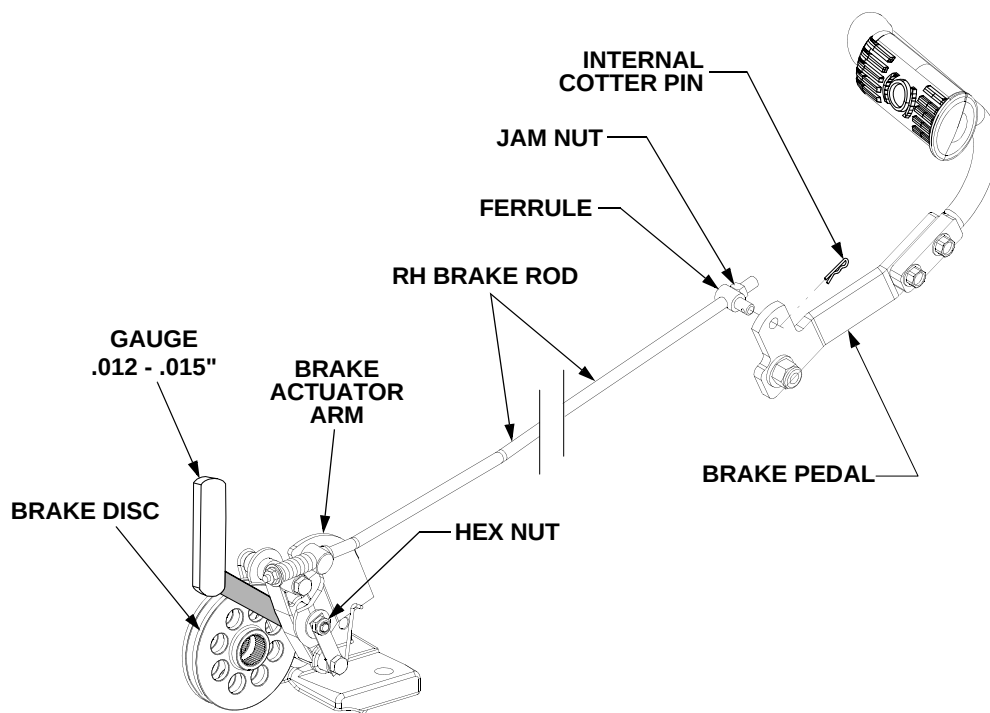

Figure 28
- From beneath the RH running board, remove the internal cotter pin to disengage the brake rod ferrule from the brake pedal. Position the brake rod to make certain there is no pull on the brake actuator arm. See Figure 28.
puck and the brake disc. The gap should measure between .012 and .015". See Figure 28.